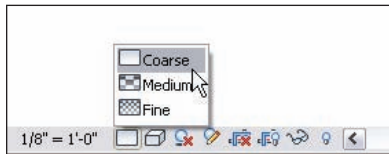

FIGURE 2.17 Sometimes setting the graphic display to Coarse can make the placement of other walls easier.
6. On the View toolbar, set the detail level to Coarse, as shown in Figure 2.17.